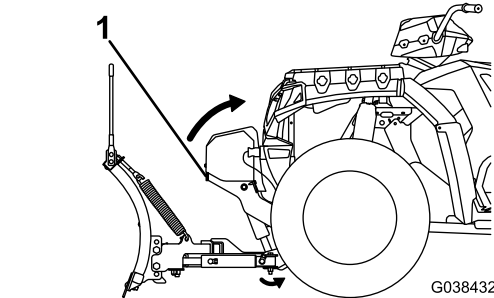

Figure 21
7. Using the coupler handle, push the coupler tower upward until the coupler spring pins snap in (Figure 21).
9. Pull the kickstand handle outward and raise the kickstand (Figure 21).